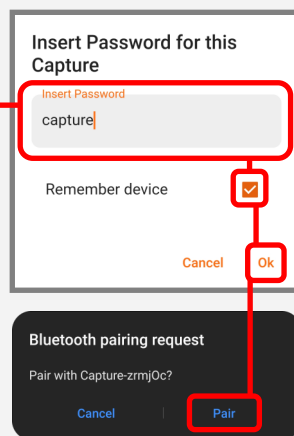

Fig 2
- 2) Enter the default password "capture" and press ok. (For security reasons, we recommend that you change it later). Your smartphone will ask you to pair your Bluetooth device. Agree. Fig 2